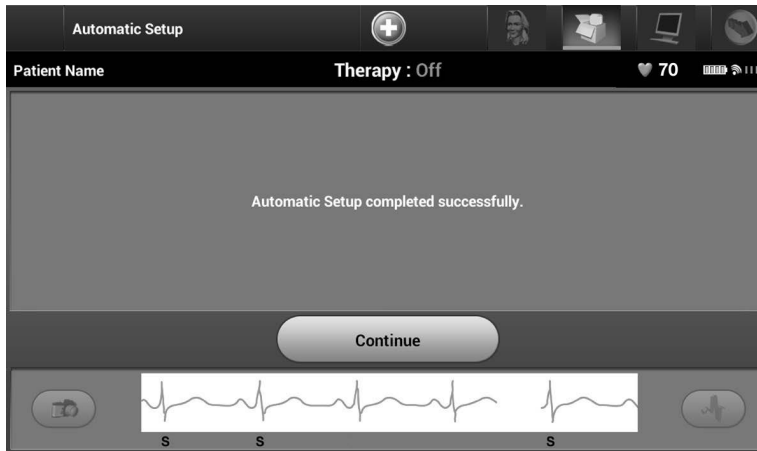

Figure 27: Confirmation of successful Automatic Setup
7. Select the Continue button to finish the Automatic Setup process. A confirmation screen will appear when Automatic Setup is complete (Figure 27).